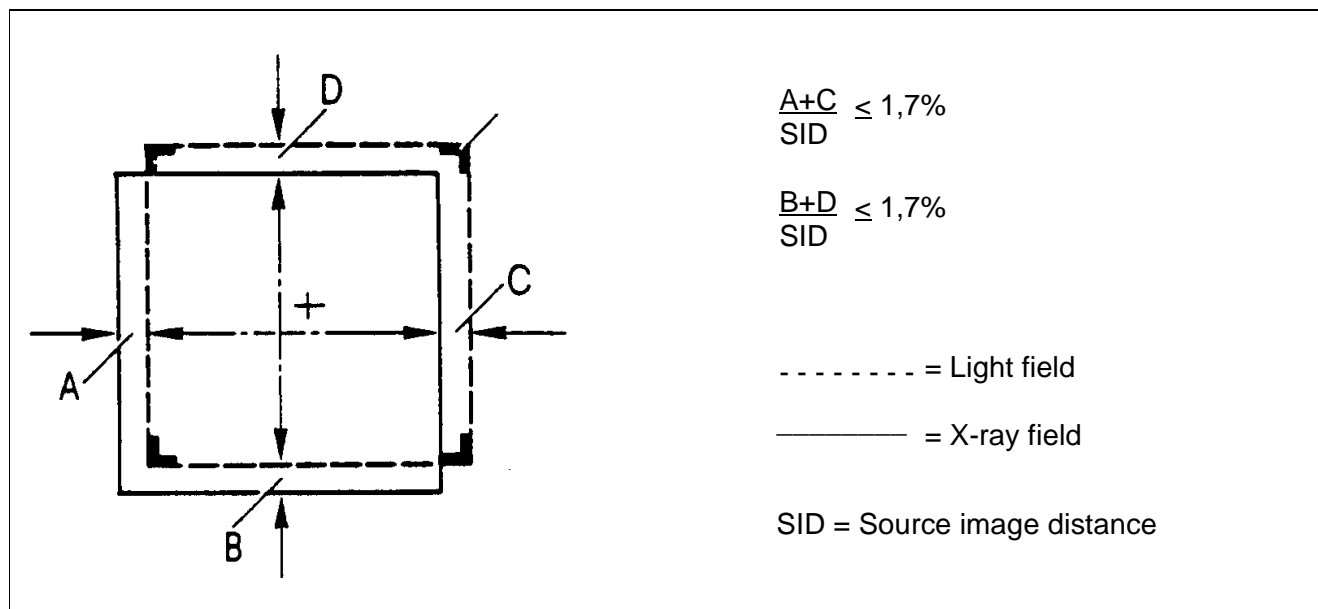

Fig. 9
- Process the film and measure the deviation between the light field and the X-ray field. Permissible deviation $\pm 1.7\%$ of the SID, see Fig. 9. If the deviation is greater, see "Service Instructions, chapter Replacement and repairs on the collimator".